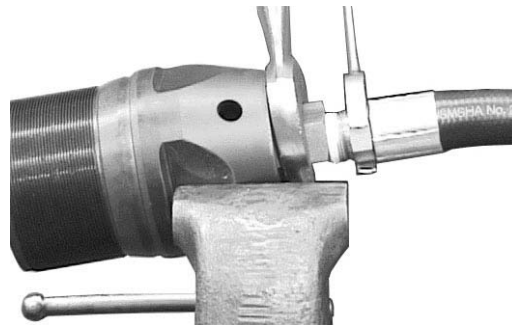

Figure 8-7. Remove Whip Hose.
1. Place the Tail Assembly in a vice or saddle clamp. Secure the End Cap (15) tight enough to hold Tail Assembly in place.
2. Using a 1-3/4-inch open-end wrench to hold the Adapter (16) in place, use a 1-3/8-inch open-end wrench to loosen and thread the hose fitting of Whip Hose (18) from the Adapter. See Figure 8-7.